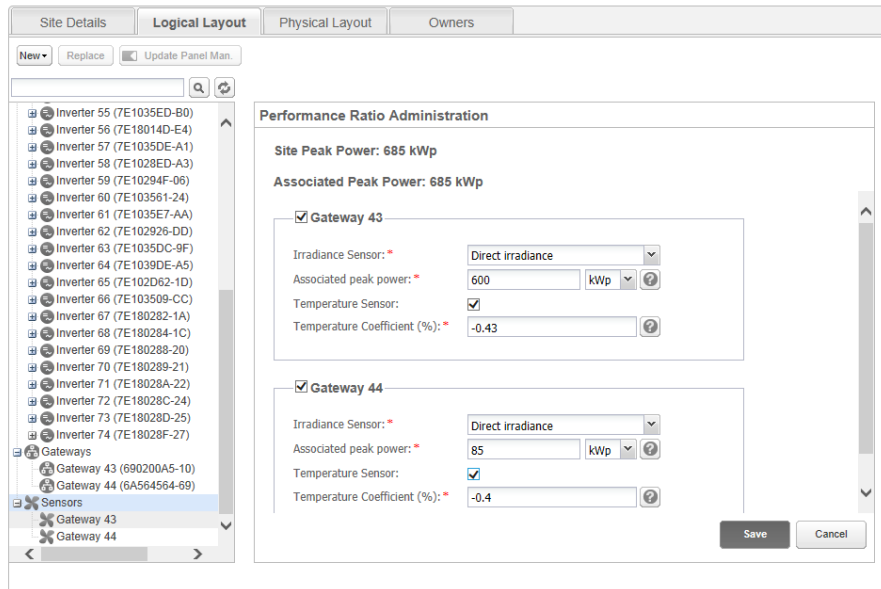

Figure 2: Performance Ratio Administration – multiple gateways
- The associated peak power, which is the power of the array in which the sensors are installed. This number will be used to calculate the PR and is displayed after the sensor settings are edited as described below. For multi-orientation sites, the associated peak power is the sum of powers of all arrays that have a sensor installed (see Figure 2).